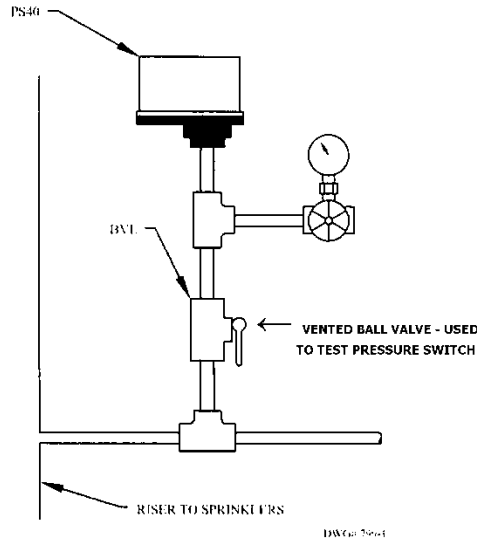

FIGURE 1
- d. All pressure switches shall have a vented ball valve installed on the line before the switch (See FIGURE 1 at the end of this document).